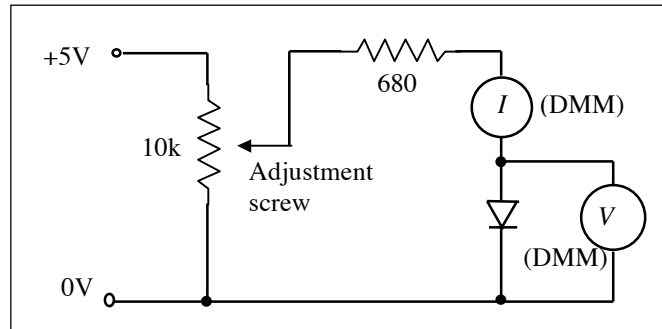

Figure 2 Circuit for measuring diode characteristic
- Construct the circuit of figure 2 on the breadboard. The 10 k Ω variable resistor forms a potential divider, allowing you to vary the voltage across the diode.